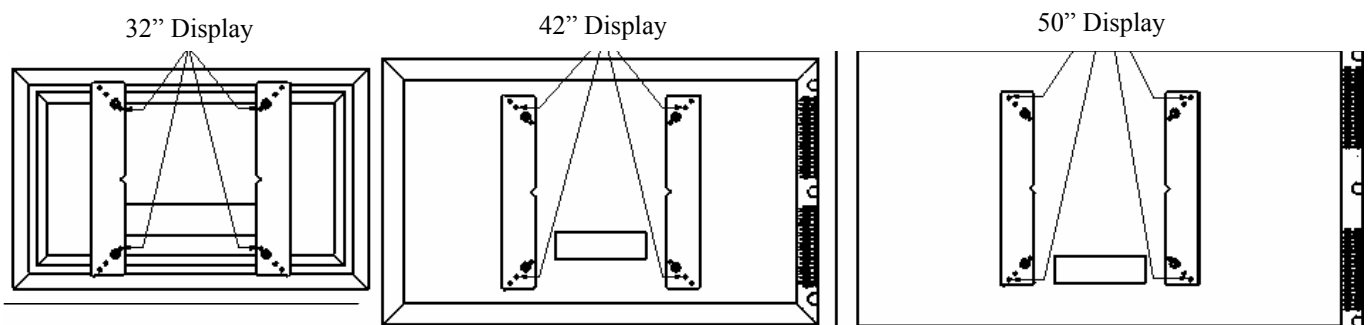

Figure 9. Bracket Attachment Location
4. Attach mounting bracket to the display (see Figure 9), as follows: